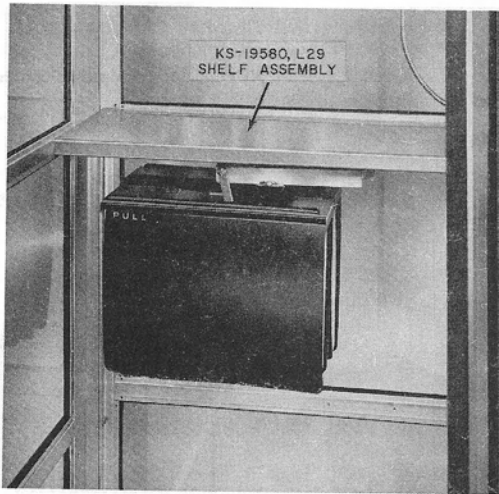

Fig. 8—KS-19580, List 29 Shelf Assembly with KS-20030, List 2 Directory Hanger (Typical)
2.17 Unless otherwise specified, a KS-19580, List 29 shelf assembly is furnished with each booth (Fig. 8). The List 29 shelf will accept a KS-20030, List 1 or List 2 directory hanger; order separately.